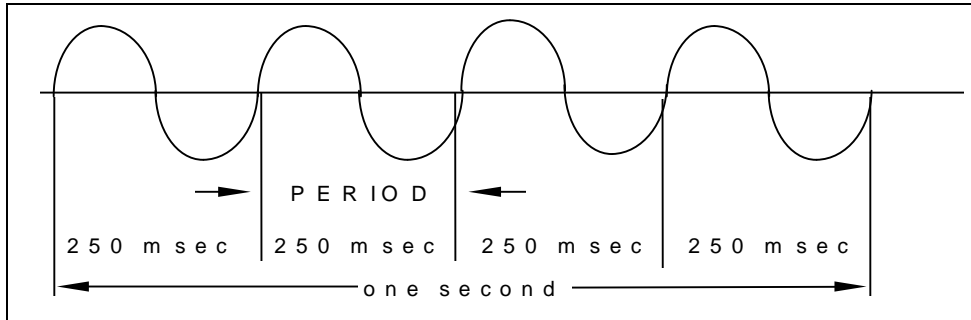

Figure 4: Measuring Period.
- The **period (T)** of the signal is defined as the time it takes for a signal to complete one full **cycle**. The period is the horizontal component of the signal, measured in units of seconds (s). In Figure 4, the period of the signal is measured as 250 milliseconds (250.0×10^{-3} s).
- In Figure 4, above, you can see four(4) cycles occurring within one second; therefore, the signal has a frequency of 4 Hz.
- The frequency, f , of a wave is inversely related to its period (T):